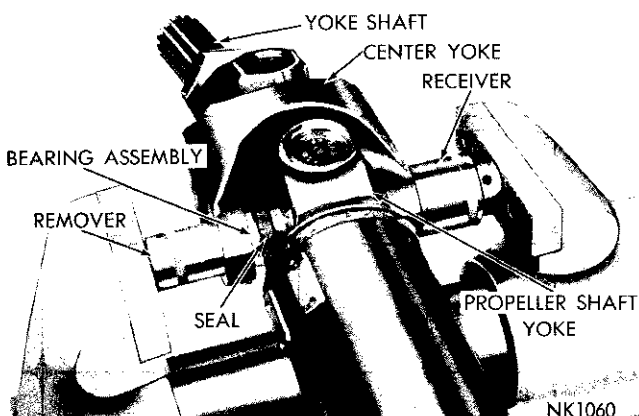

Fig. 26—Pressing Bearing from Center Yoke
(4) Press the bearing assemblies from the yokes in the following manner: Use a short length of round bar stock $\frac{3}{4}$ inch in diameter, or a $\frac{3}{4}$ inch socket as a remover. As a receiver on the opposite bearing, use a short length of pipe or a socket with an inside diameter of not less than $1\frac{1}{16}$ inch. Clamp the joint with remover and receiver in a vise (Fig. 26) and press one of the rear yoke bearings approximately $\frac{3}{8}$ inch out of the yoke.